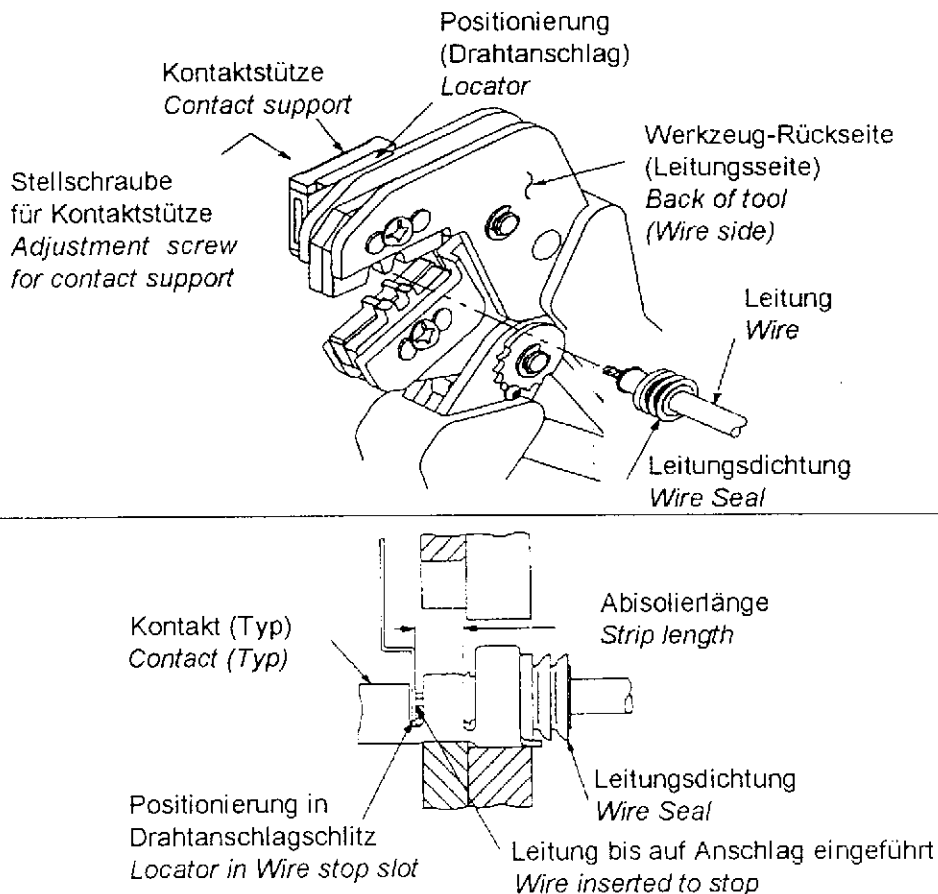

Figure 3
Refer to the table in Figure 1a and select wire of the specified size and insulation diameter. Strip the wire to the length indicated in Figure 1a, taking care not to and identify the appropriate crimp section according to the wire size marking on the tool. Refer to Figure 3 and proceed as follows:
3. *Position the contact so that the mating end of the contact is on the locator side of the tool, and so that the open "U" of the wire and insulation barrels face the top of the tool. Place the contact up into the nest so that the movable locator drops into the slot in the contact. Refer to Figure 3. Butt the front end of the wire barrel against the movable locator.*
5. Insert stripped wire into contact insulation and wire barrel until it is butted against the wire stop, as shown in Figure 3.
The crimped contact may stick in the crimping area, but the contact can be easily removed by pushing downward on the top of the locator (see Figure 3).